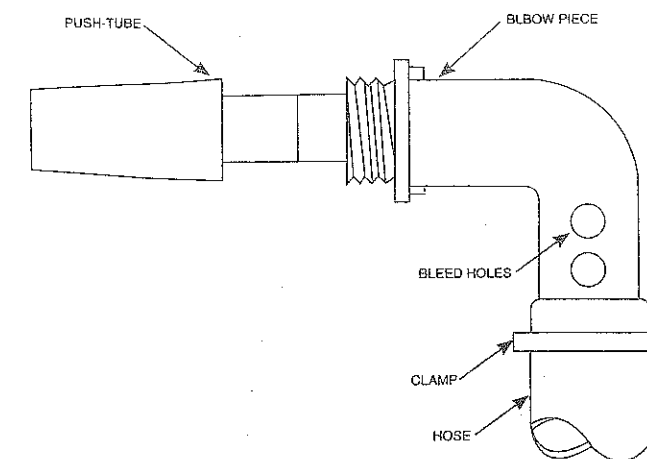

FIGURE 6
3. Refer to Figure 1. Uncoil the hose (3) and remove all twist. Using clamps (15), clamp one end of the hose to the back side of the fountainhead (1) and the other end to the inlet adapter from step 2. Cover one set of bleed holes with the hose (Fig. 6). To tighten clamp, grasp "tabs" between thumb and forefinger and squeeze. Tighten securely with a pair of pliers. To open the clamp, grip one "tab" of the clamp with pliers and twist loose.
4. Using the tie wrap (14), LOOSELY attach the anchor (4) to the hose (3). The anchor (4) should be attached to the hose (3) at a point as deep as the water plus approximately two feet. You will have to estimate what the water depth is where you want the fountain and add two feet. **CAUTION: DO NOT CONSTRICT THE HOSE BY TIGHTENING THE TIE WRAP (14) TOO TIGHT.**
6. Place the fountain assembly into the pool. Position the fountain in the desired location being careful not to crimp the hose (3).
2. Refer to Figure 6. Push the small end of the Push-in Tube (12) into the threaded end of the Elbow Piece (6) until it is secure. this is your inlet adapter.
Height adjustment is achieved by covering more or less of the bleed holes (Fig. 6) on your elbow piece (6) with the hose (3). The more holes covered, the higher the fountain and vice versa.